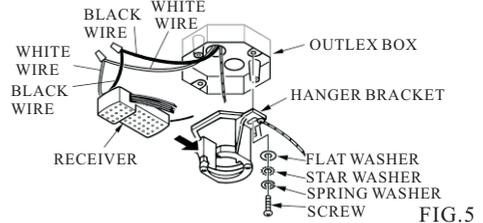

FIG. 5
1. Securely attach the hanger bracket to the outlet box by washers and screws supplied. Connect white wire from ceiling to white wire from receiver with wire nut. Connect black wire from ceiling to black wire from receiver with wire nut. (see Fig.5)